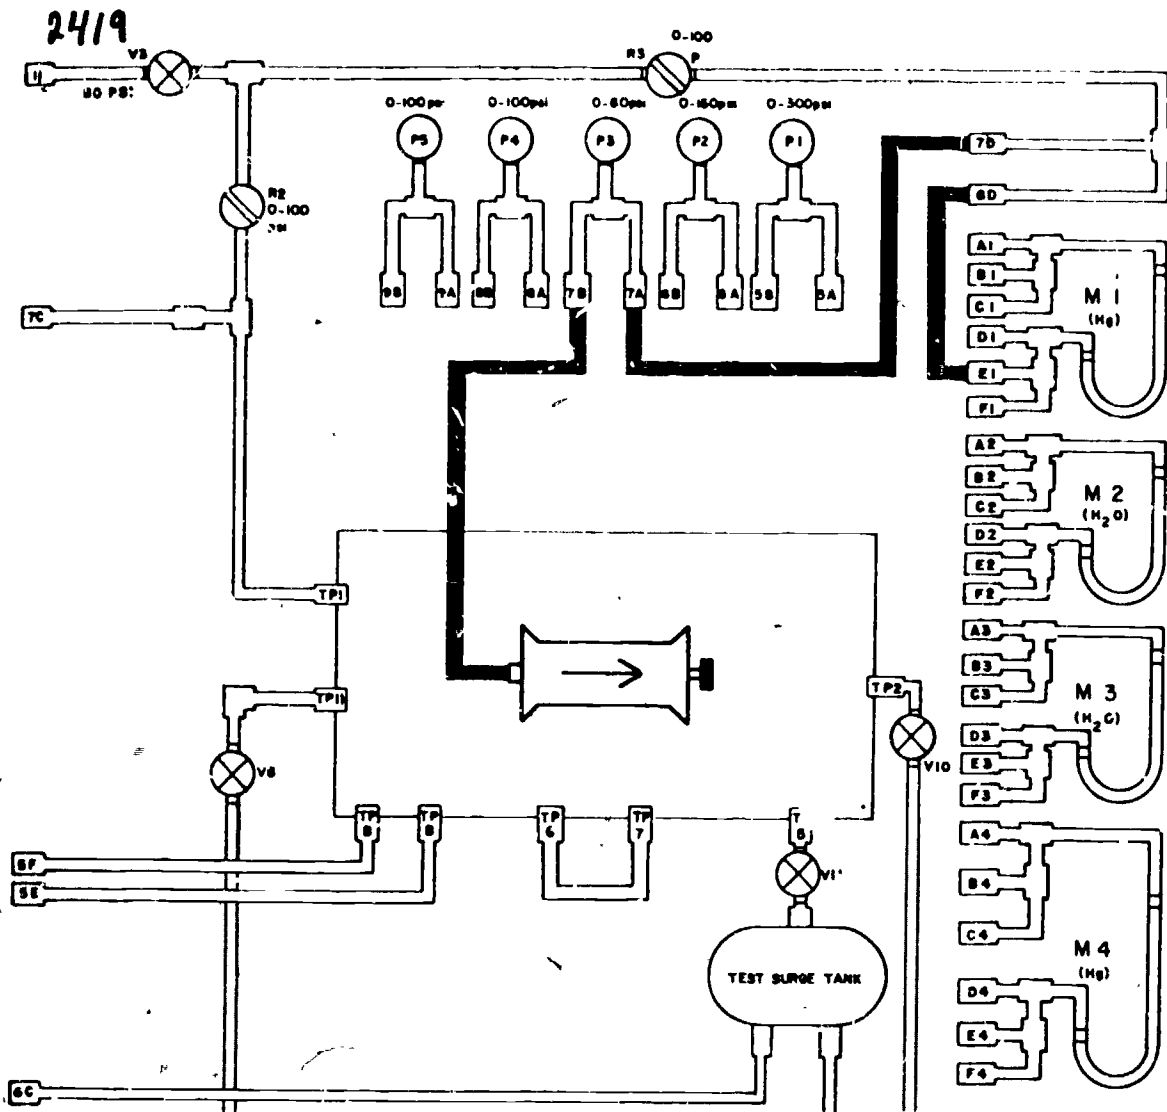

Figure 5. Pneumatic Valve Test Service
(1) Using figure 5, hook each pneumatic hose (heavy dark lines) to the valve and the trainer. M-1 manometer scale should be set to read zero on the inches of mercury scale.
(2) Place switch S-1 to ON.
(3) Open valve V-3.